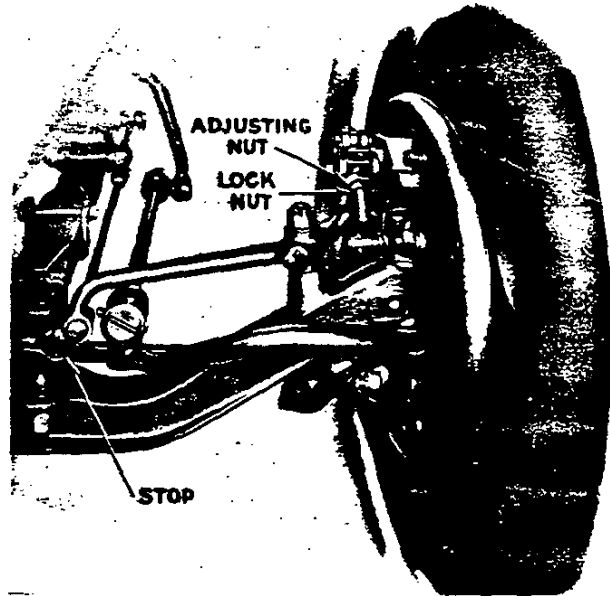

Figure 8
1. Make sure brake operating lever is against stop on axle as in Fig. 8.
2. Loosen adjusting lock nut (Fig. 8) and turn the adjusting nut to left until a slight drag is felt when turning wheel by hand.